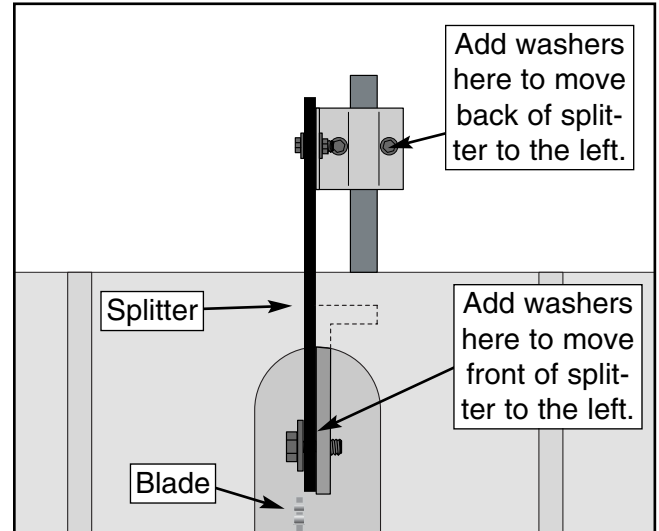
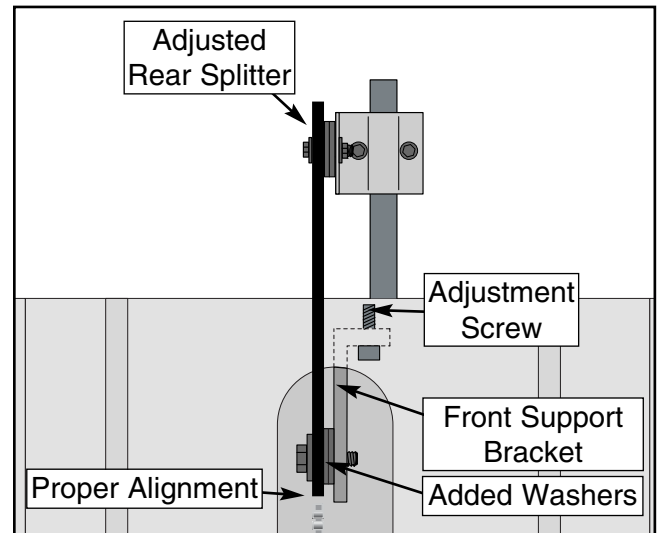

Figure 20. Improper splitter/blade alignment.
Figure 21. Proper splitter/blade alignment.
- If the blade splitter is to the right of the blade as shown in **Figure 20**, simply add washers between the splitter and the front mounting bracket, and adjust the rear splitter support as shown in **Figure 21**.
7. If the splitter is positioned to the left of the blade, alignment cannot be achieved by washer placement. Adjustment of the front support bracket is required. See **Figure 20** for adjustment details. Loosen the 2 adjustment screws and move left or right.